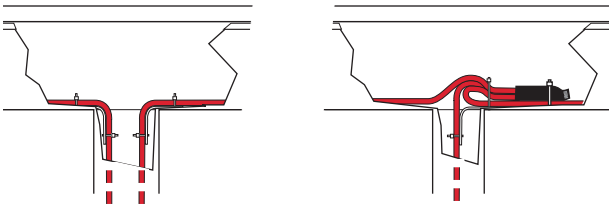
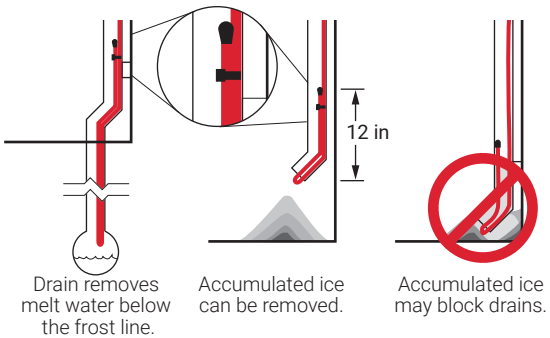

Figure 15: Heating cable at top of downspout
Figure 16: Heating cable at bottom of downspout
- External downspouts and scuppers must be treated carefully. A path must be provided for the valley/perimeter heating cable to the point of discharge (see Figure 15 on page 28).
Ice may form in downspouts and prevent melt water from escaping from the roof. To maintain a continuous path for melt water to run off, run the heating cable inside the downspout to the end as shown in Figure 15 and Figure 16 below. Follow the appropriate attachment recommendations in “Attachment Methods”, page 30. Additional heating cable may be needed for the roof surface, gutters, and valleys.